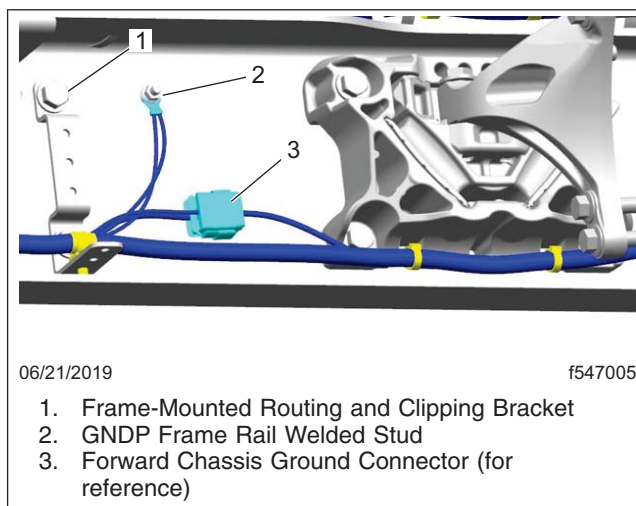

Fig. 9, GNDP Frame Rail Stud
8. Verify that the Electrical Ground (GNDE) and the Power Ground (GNDP) frame rail studs are clean and torqued correctly. Disassemble and inspect the studs for overspray on the flat surfaces, and in between the ring eyes. Torque these frame rail ground studs 14 lbf-ft (19 N-m). Repaint the connection as necessary. See **Fig. 9** on page 10.